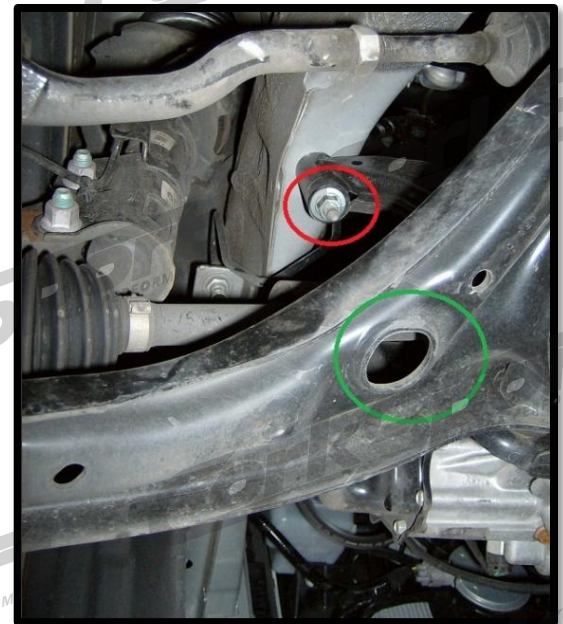
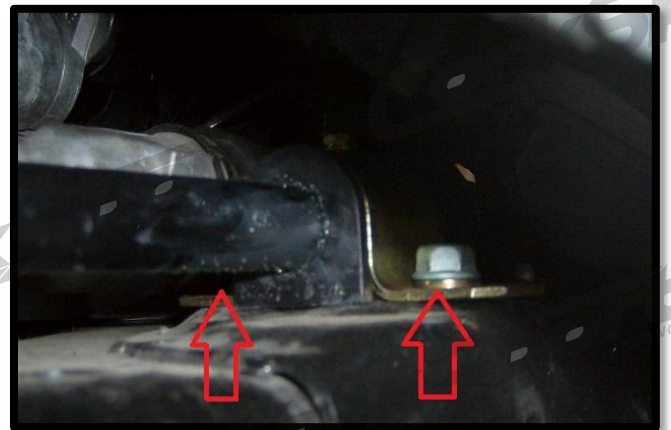

Figure 1c
Figure 2a
- 1f) Remove the nut (circled in **red** in **Figure 1c**) using a 14mm long socket and 6" extension, repeat for the other side
- 1h) Remove the two (2) bolts securing the sway bar bracket using a 14mm socket and repeat for the other side
- 2c) Install the brackets over the bushings and secure the brackets using the factory bolts and supplied washers and torque the bolts to 30-40ft-lbs (see **Figure 2a**)
- 2d) Reinstall the subframe by first jacking it up into place then reinstall the nut (shown in **Figure 1c**). Torque the nut to 50-65ft-lbs and repeat for the other side
- F) Remove the nut (circled in red in Figure 1c) located above the front axle on both sides of the car. Use a long 14mm socket and 6" extension to reach through the access hole in the control arm (green circle in Figure 1c). Repeat for the other side.
- C. Install the brackets over the bushings. Secure the brackets using the factory bolts with the supplied washers (red arrows in Figure 2a). Torque the bolts to 30-40 ft-lbs.
- D) Reinstall the subframe by jacking it up into place. Reinstall the nut shown in Figure 1c. Torque the nut to 50-65 ft-lbs. Repeat for the other side.